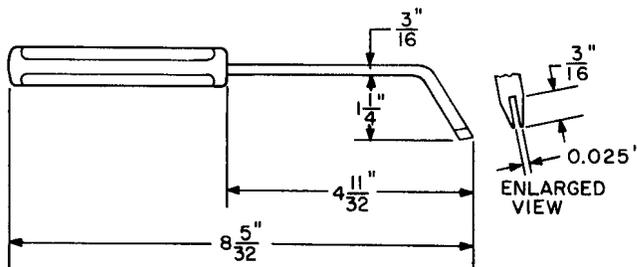

Fig. 9—235 Adjuster Tool
2.09 **235:** The 235 tool (Fig. 9) is a spring adjuster used to adjust the lower row of contact springs on 155A- and 157-type interrupters, and A- and B-type and spring driven sequence switches.